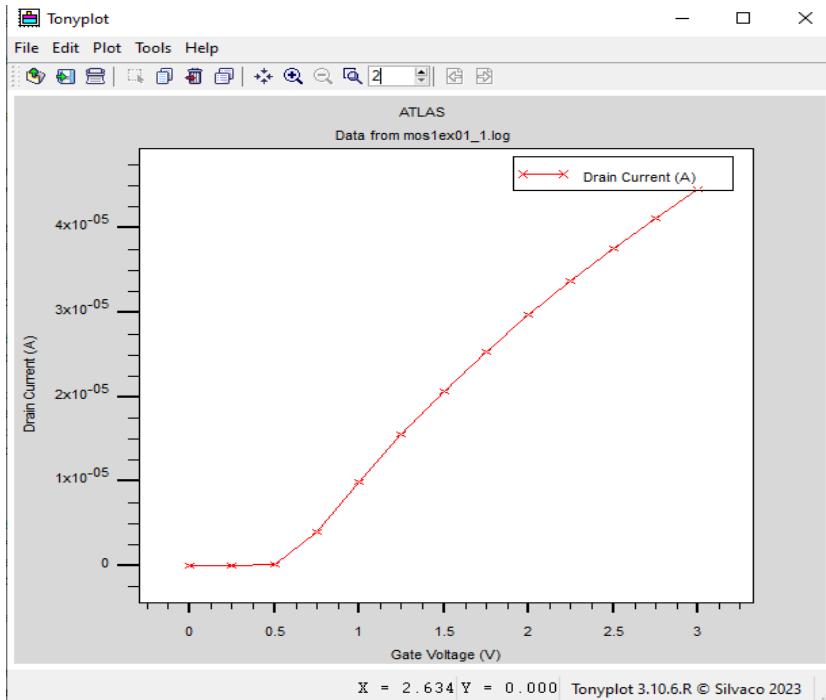

Figure 5: electrical characteristic
1.the curve bellow (figure 5) show a  $V_{th}$  of 0.5 V